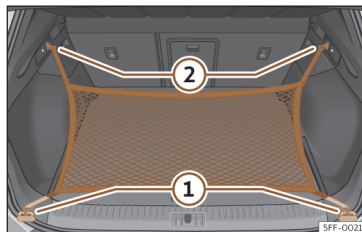

Fig. 195 In the luggage compartment: rings ① and hooks ② for attaching the net bag.
- Secure the short net hooks to the fastening rings >>> **Fig. 195** ① >>> ⚠. The bag zip should be facing upwards.
- Secure the straps in the bag hooks ②.